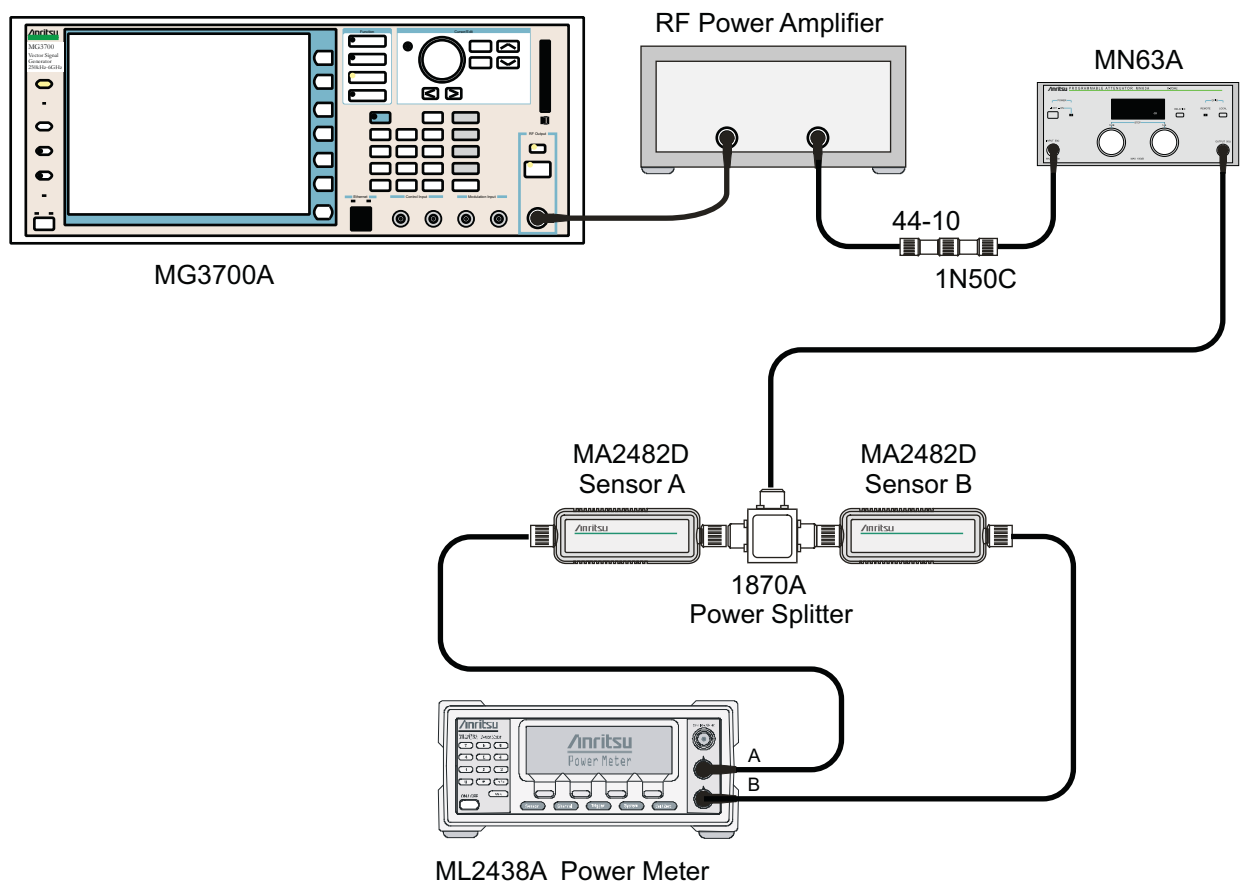

Figure 5-15. Level Accuracy Verification Setup
2. Connect the MG3700A Signal Generator, Power Amplifier with N(f)-to-BNC(m) adapters, RF Limiter, MN63A Programmable Attenuator, Power Divider, Power Meter, and Power Sensors as shown in Figure 5-15
52. Turn Off the power amplifier, disconnect the power splitter from the Cell Master, and reconnect Sensor A to the power splitter as shown in Figure 5-15 on page 5-81.